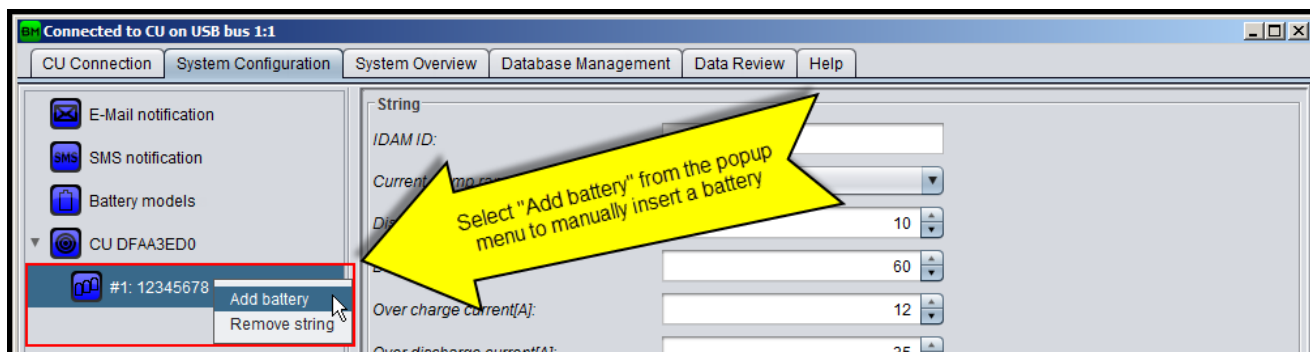

Figure 36: Manually add battery
1. Right click on the String icon to open the popup menu and select “**Add battery**” as shown on Figure 36.